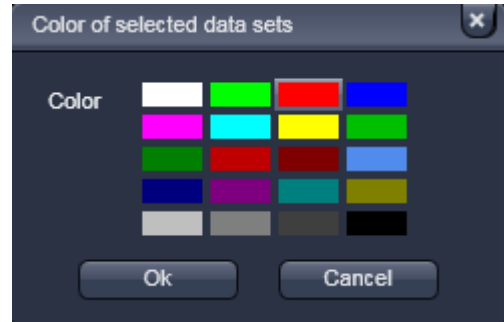

Fig. 361 Color of selected data sets submenu window
- Click with the right mouse button in the table and select **Color** from the context menu. This will open the **Color of selected data sets** (Fig. 361) submenu window.